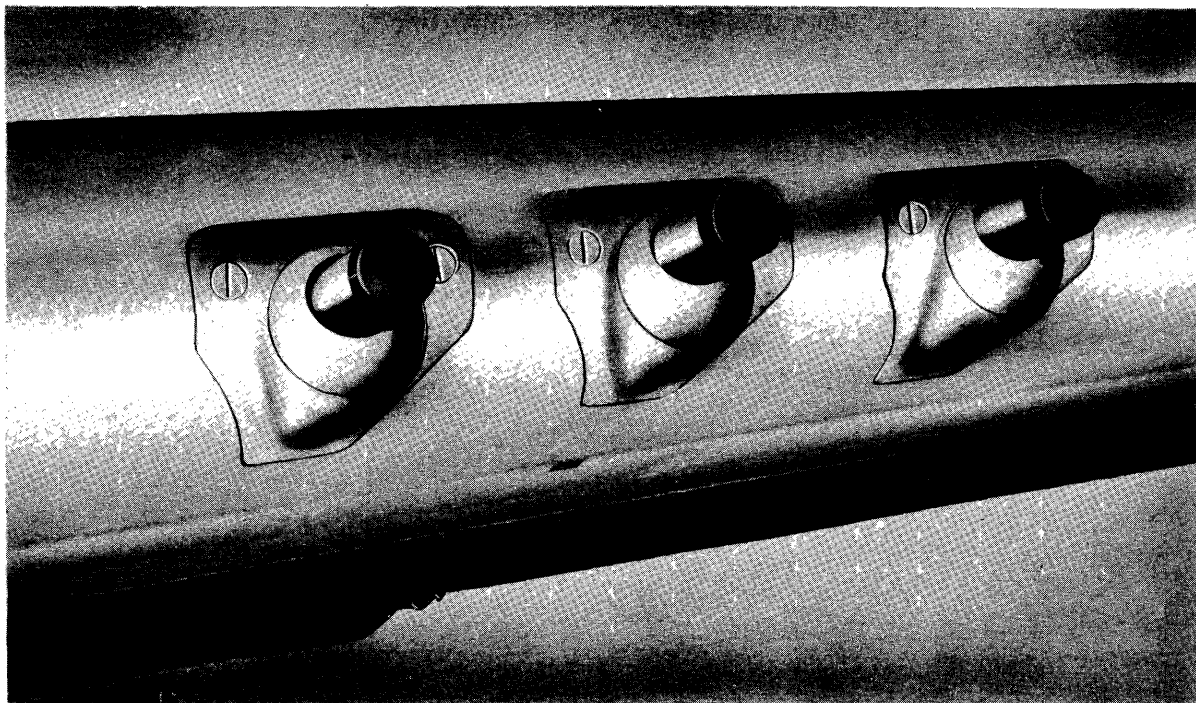

Figure 96 - Gun Installation Intact
- (a) **Figure 96.** - Gun installation intact.